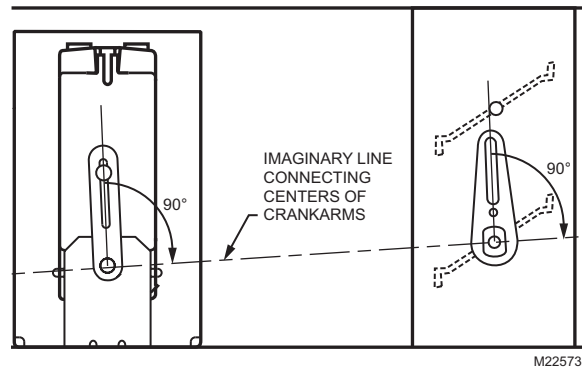

Fig. 9. Crankarm perpendicular positioning.
4. Position each crankarm perpendicular to the imaginary line. (See Fig. 9.)